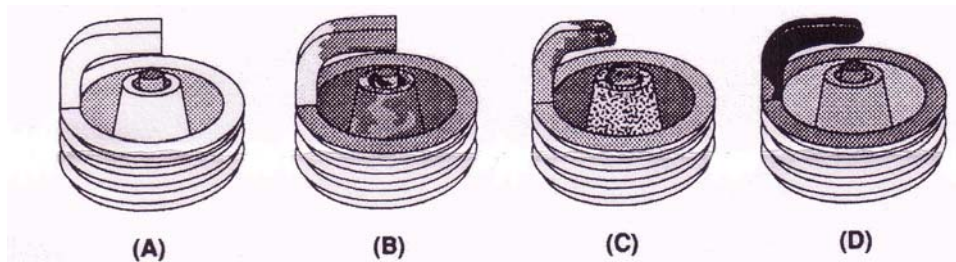

FIG. 11
6. Perform a dynamometer pull or a full throttle pass down the racetrack. Note the power reading or vehicle MPH at the track. Examine the spark plugs for signs of detonation (refer to figure 11 for tips on reading spark plugs).